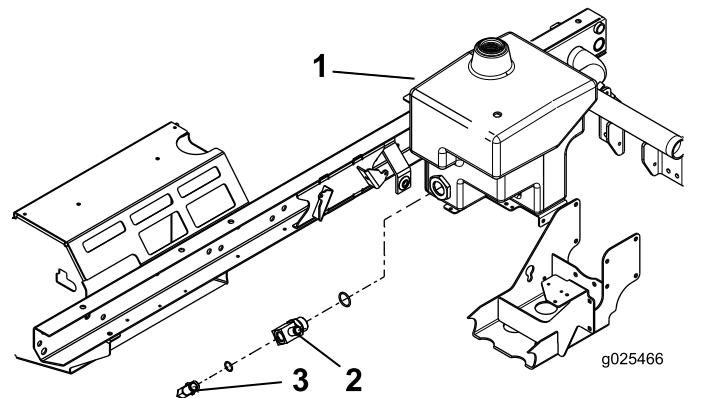

Figure 11
1. Loosely install the large tee fitting into the hydraulic tank (Figure 11).
2. Install the 90° fitting into the large tee fitting (Figure 11).